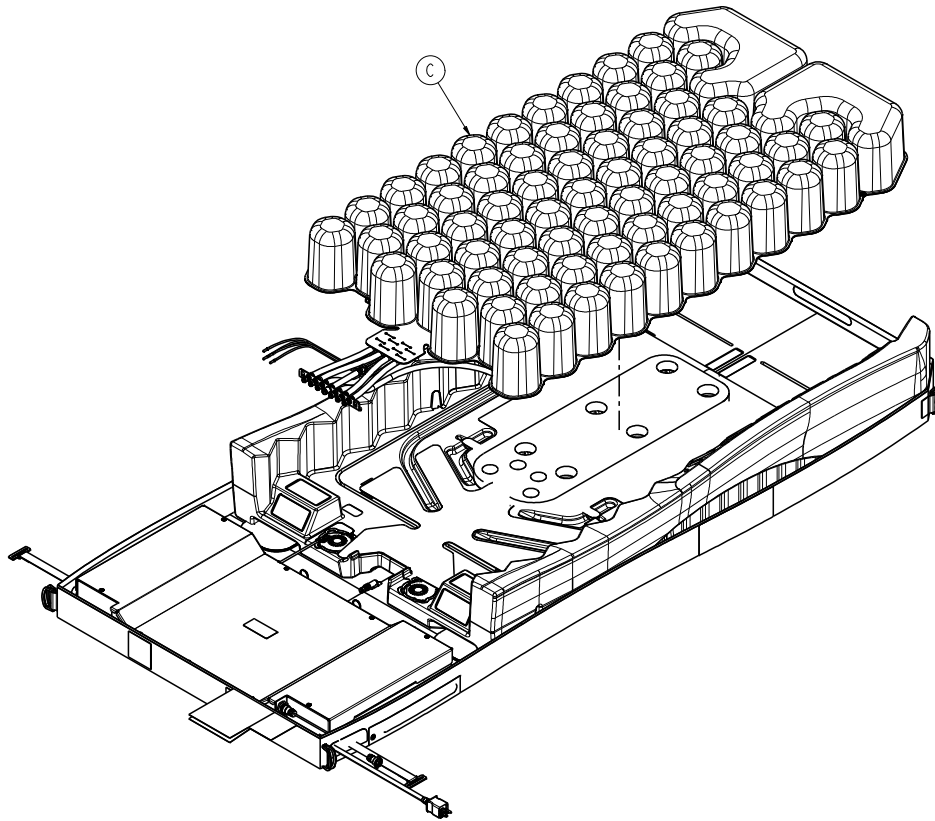

Figure 8 – Pod assembly
9. Remove the sensor hoses from the purse lock wire ties (M).
10. Reach under the pod assembly (C) from the patient right side near the middle to access the turn bladder. Disconnect the turn bladder quick disconnect. Repeat for the patient left side (Figure 8).